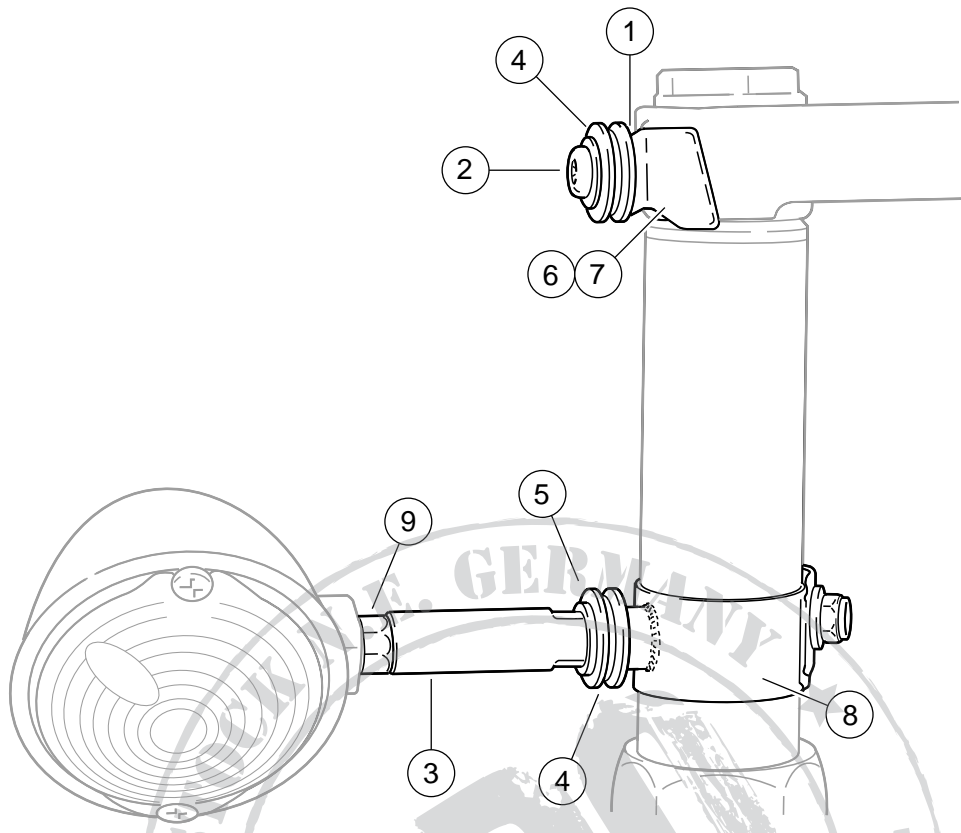
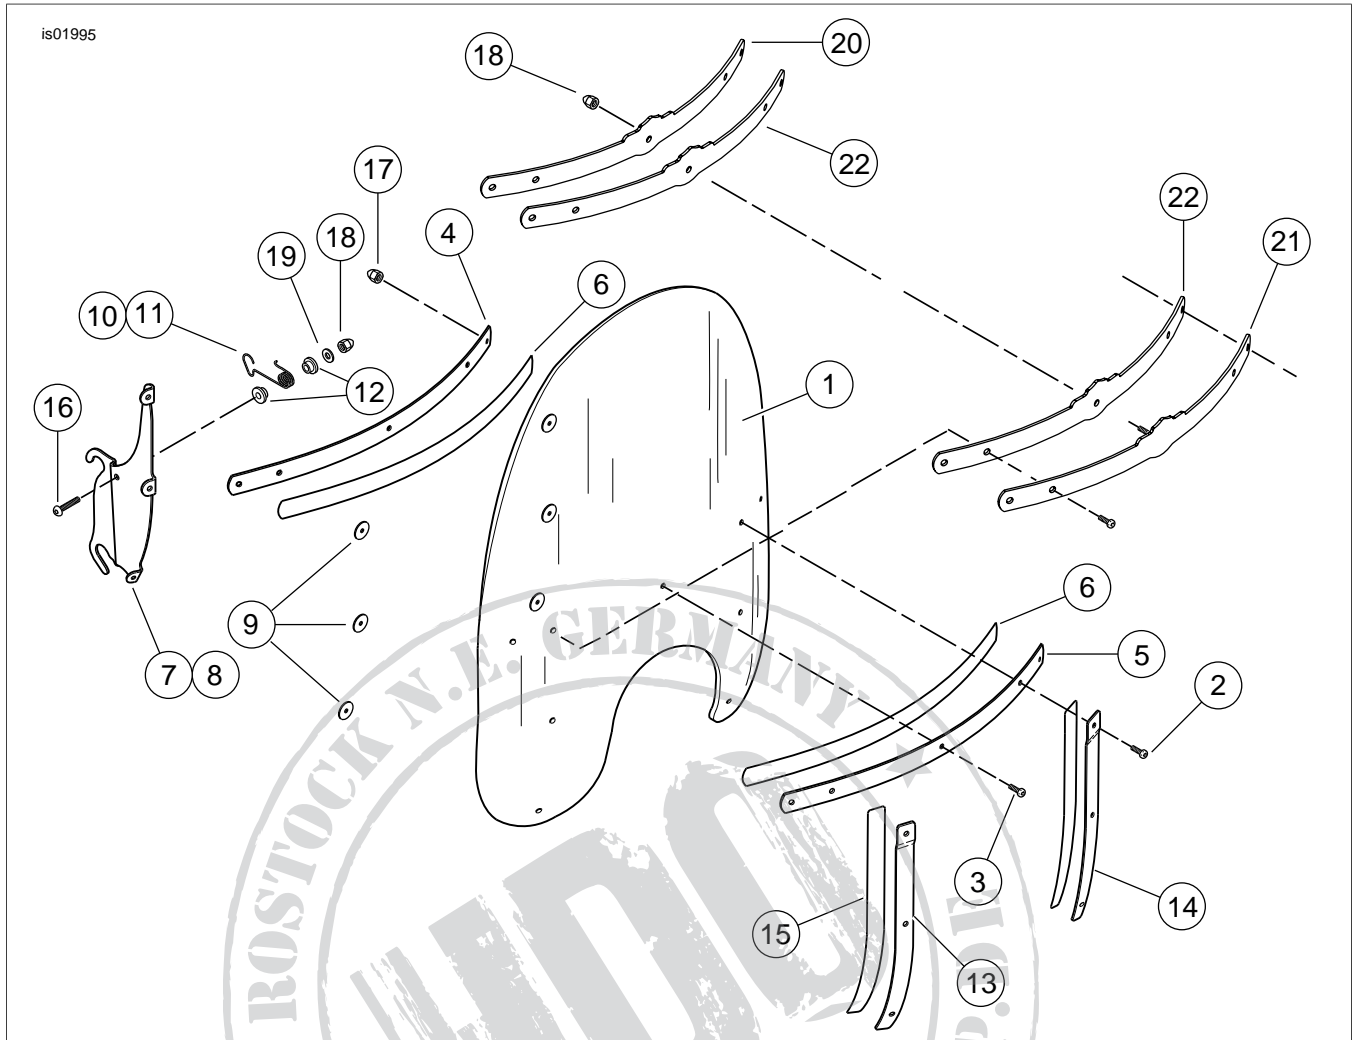
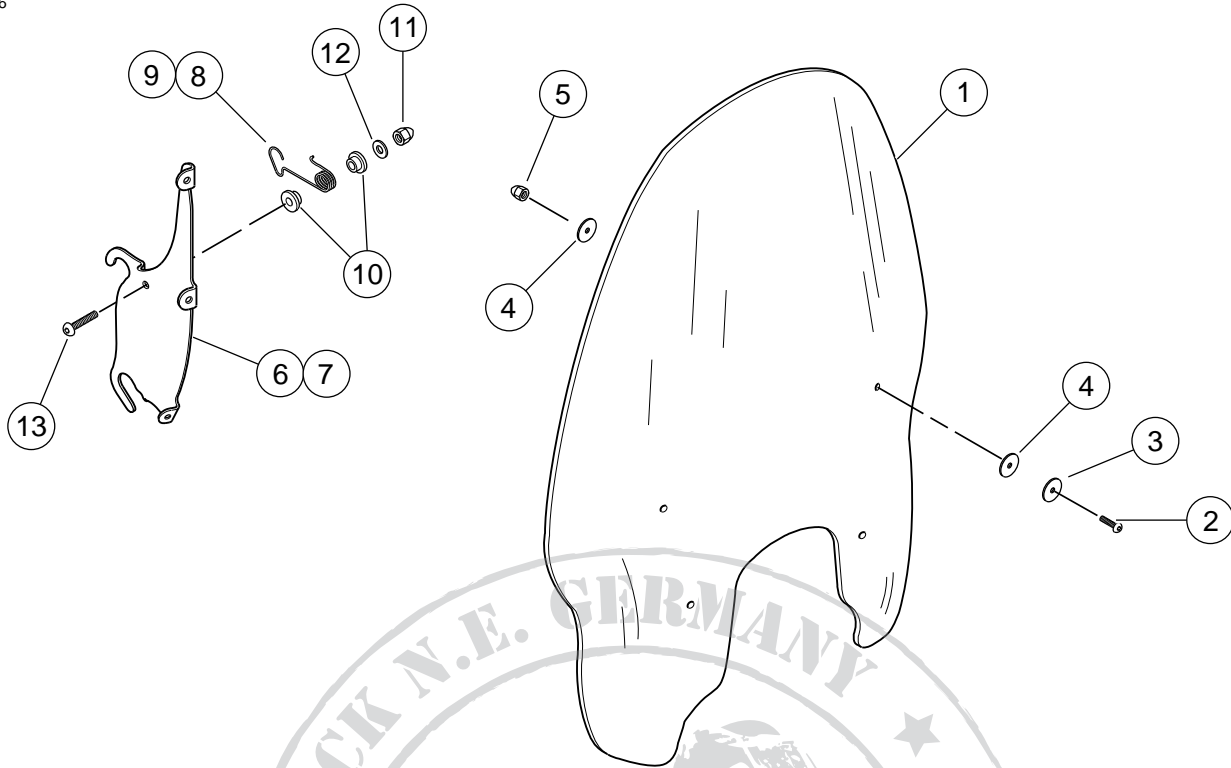

Figure 5. Service Parts: Docking Hardware
Figure 6. Service Parts: Windshield
Figure 7. Service Parts: Windshield Kits
See Figure 5, Table 2 and Figure 6, Table 3 and Figure 7, Table 4.
3. **On all models except FXSTB:** Remove turn signal lamp from right side of handlebar (brake side). Remove ball receptacle from turn signal assembly. Install lockwasher (12) and chrome acorn nut (11) from kit on end of mirror stalk to hold mirror in place.
7. See Figure 5. Assemble mounting hardware for lower windshield mounting as shown in illustration. Assemble in the following order, and leave assembly loose:
- a. Locate the mounting hardware supplied in the docking hardware kit. Thread jam nut (9) from mounting kit onto the turn signal standoff end that is opposite the end with the flats (3).
- c. Place flat washer (5) and bushing (4) on standoff.
- d. Thread the clamp (8) onto the standoff.
8. See Figure 6. Assemble hardware for upper windshield mounting as shown in illustration and tighten button head screws to 15 ft-lbs (20 Nm). The spacer (1), not visible in the illustration, fits between the retainer wire bracket (6, 7) and the upper fork triple clamp.